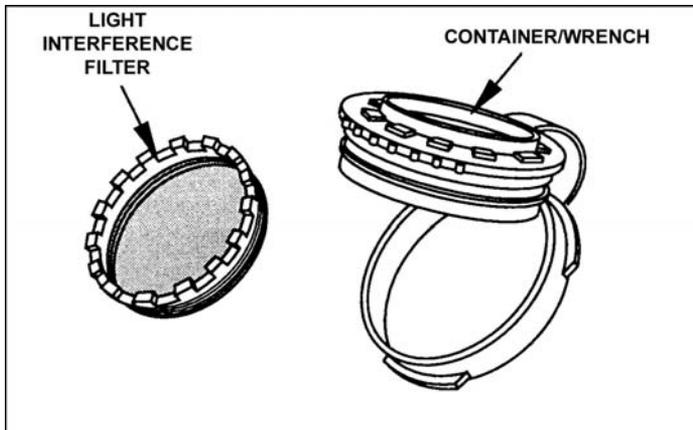

Figure 071-706-0001-8. Light interference filter assembly
d. Laser threat environment. Install the LIF. Using this filter will slightly reduce system gain (figure 071-706-0001-8).